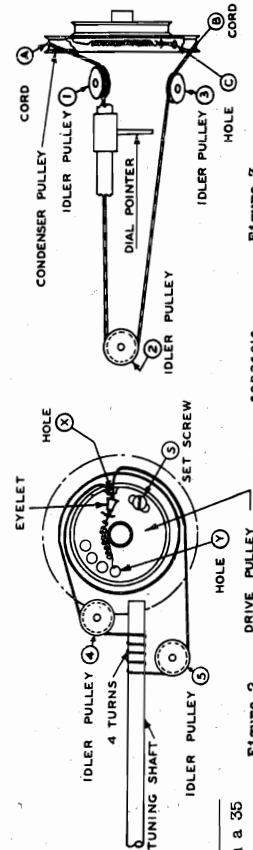

Figure 2
In a counter-clockwise direction wind cord one turn on drive pulley and route to idler pulley No. 4. (See Fig. 2). Route cord over idler pulley No. 4 and down to tuning shaft. Wind four full turns in a clock-wise direction on tuning shaft and continue down to idler pulley. Route cord under idler pulley No. 5 and to hole (X) in drive pulley. Thread cord ends through eyelet (Part No. 5S7824) inside of pulley. Knot cord ends together and fasten to one end of spring (Part No. 41A14759). Hook other end of spring to hole (Y) in drive pulley. With a pair of pliers pinch eyelet on cord and place drop of shellac on cord knot.